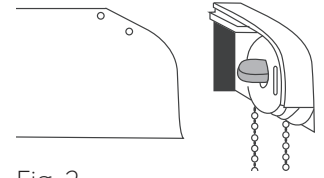

Fig. 2
- b. Slide the valance into the Valance Brackets (fig. 2).